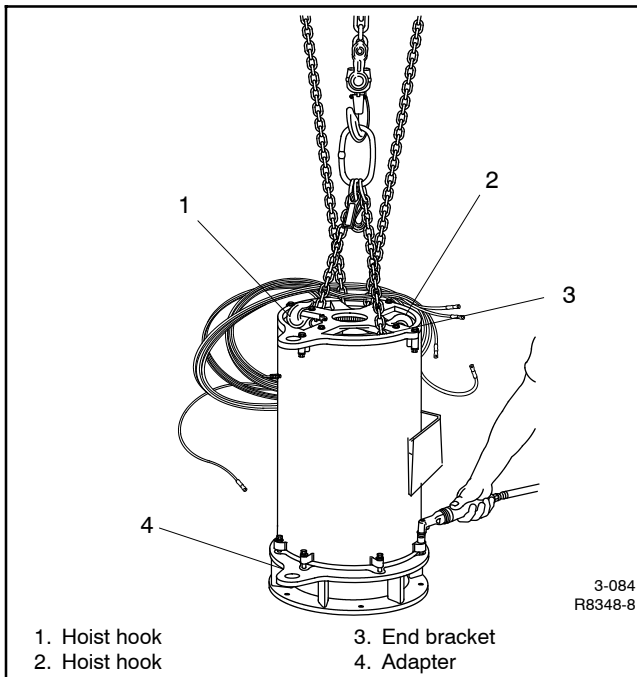

Figure 11-12 Removing Alternator Adapter
27. Place the alternator assembly on the alternator adapter end in order to remove the alternator adapter and end bracket from the stator. Fasten chains to the alternator adapter and lower to a horizontal position. Fasten hook to the end bracket eye and hoist to a vertical position. See Figure 11-12.